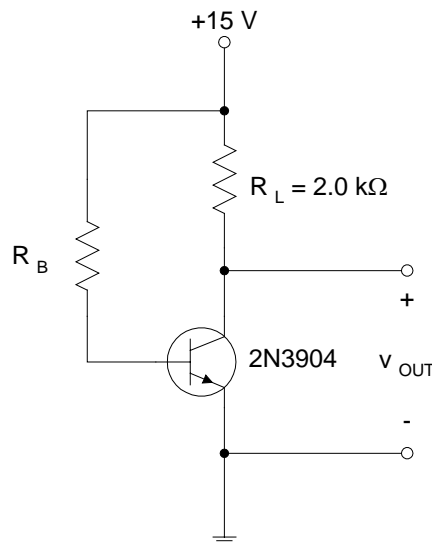

Figure 5: Circuit for Experiment 5.
5. Select the 2N3904 transistor with the largest β_F based upon the results of your test. Construct the circuit of Figure 5. Based upon your measurements of this particular transistor, calculate the values of R_B such that the DC value of the voltage V_{out} will be approximately 7 V. Using the resistors in the lab kit, approximate this value of R_B in your circuit and verify your calculation. Enter the value of R_B in the table above.